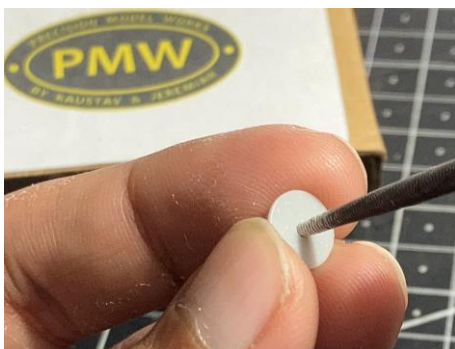

Figure 1
- The wheels are a two-part design, you need to push the pointed /conical part of the axle through the central hole of the wheel. You need to file the hole as necessary using a micro-file (fig 1). You also need to file the part of the axle to remove any support burrs left on the print (fig 2) – make sure to move the axle in circular motion not to get a flat surface on it while filing.